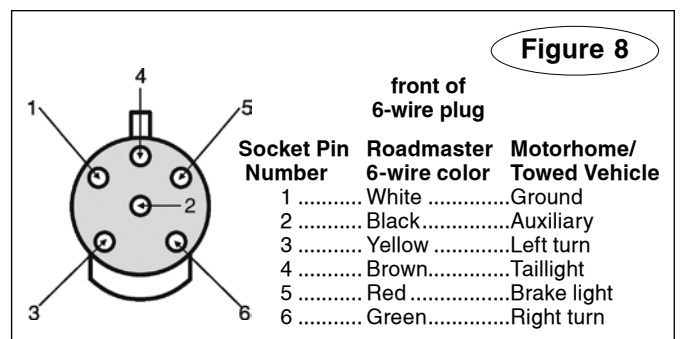

Figure 8
3. Strip ¼" to 3/8" of insulation from the ends. Connect the wires according to Figure 8; apply a silicone sealant to the attachment points to help prevent damage from moisture and corrosion.